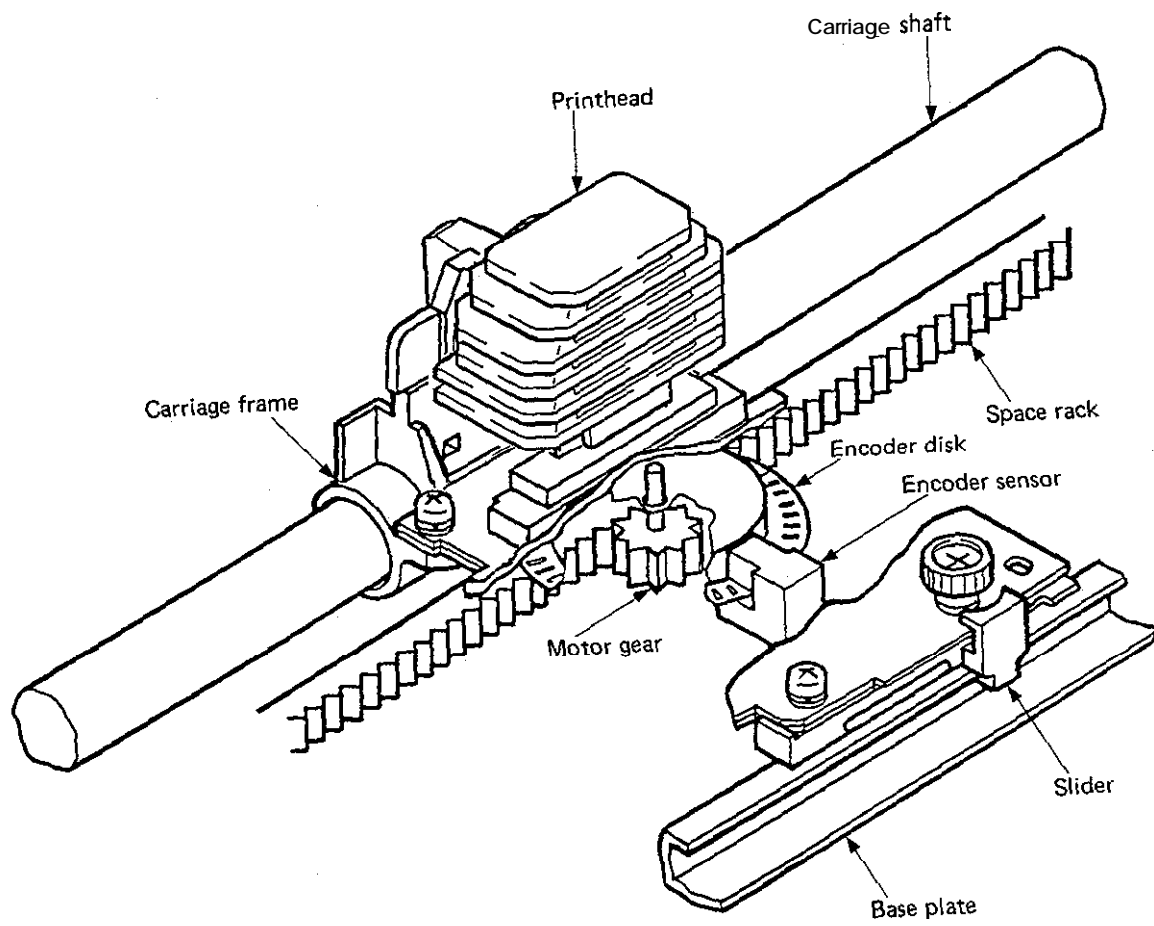

Figure 3-4
3.2.2 Spacing operation (See Figure 3-4.)